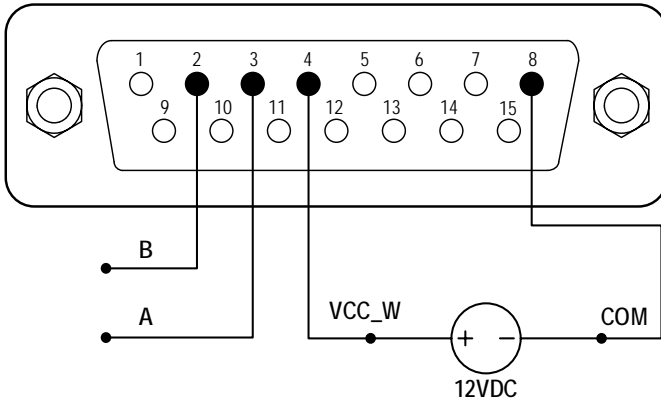

Figure 28. RS485 MODBUS Wiring
- 1) When the power is off, wire the DB15 connector as shown on Figure 28, and connect it to the DB15 port on the rear of the pump. External DC power source is recommend to avoid electrical interference.